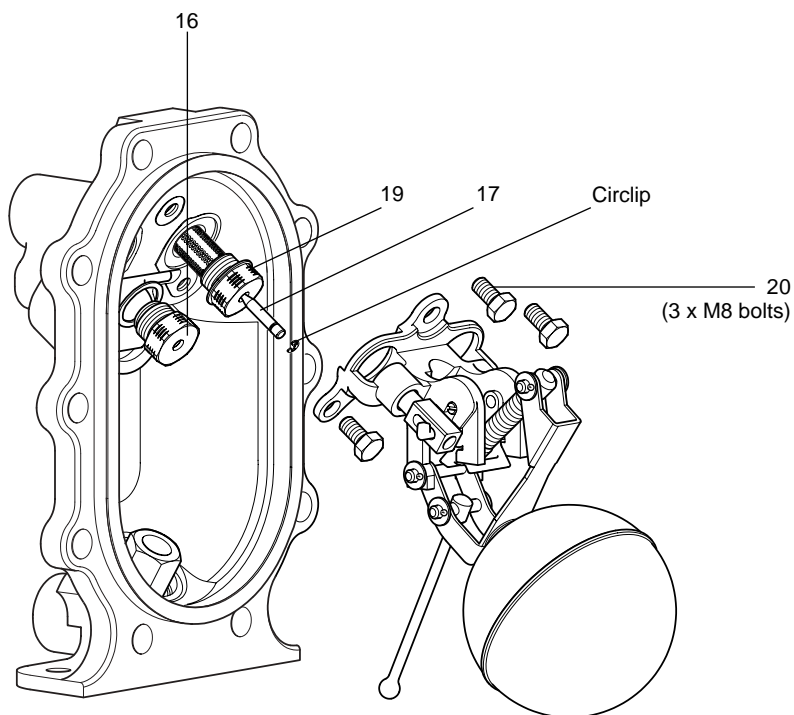

Fig. 23
9. Insert the replacement steam valve assembly (item 17) and exhaust valve (item 16) according to Fig. 23.
10. Place a new metal gasket (item 19) onto the threads of the seat before tightening into the cover.